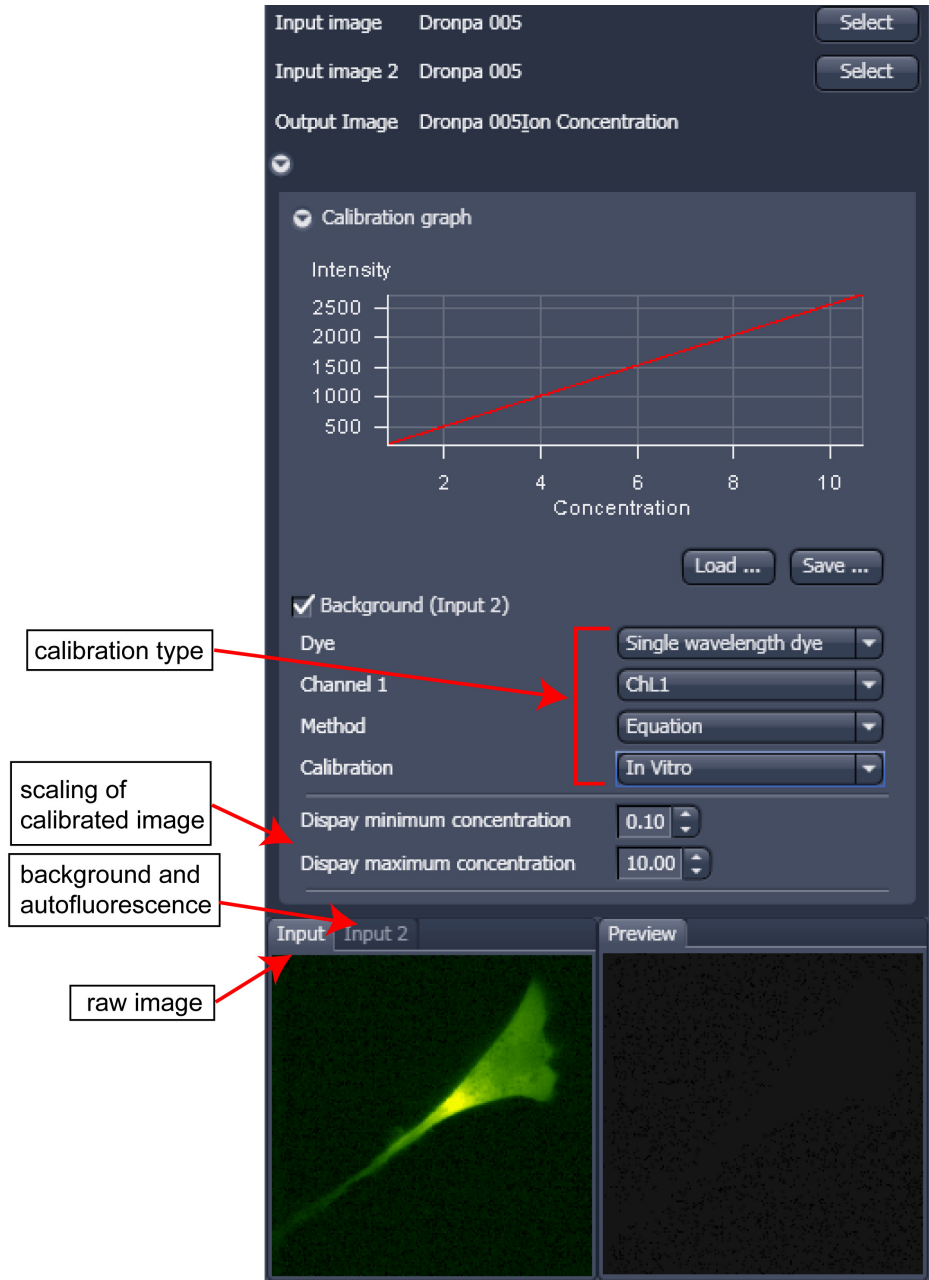

Fig. 5-94 Ion Concentration panel
- Subtract background/autofluorescence image from raw images to obtain better raw data to start with (Fig. 5-94).